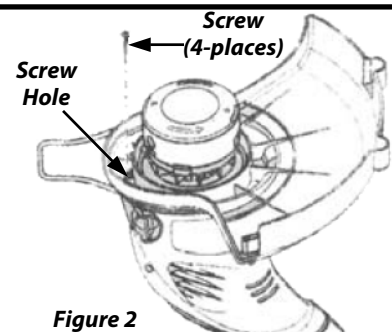

Figure 2
3. Using a Phillips Screwdriver, screw the Screws in the Guard into the Motor Housing (**Figure 2**).
288701	4-Mounting Screws (Figure 2 , Page 4)